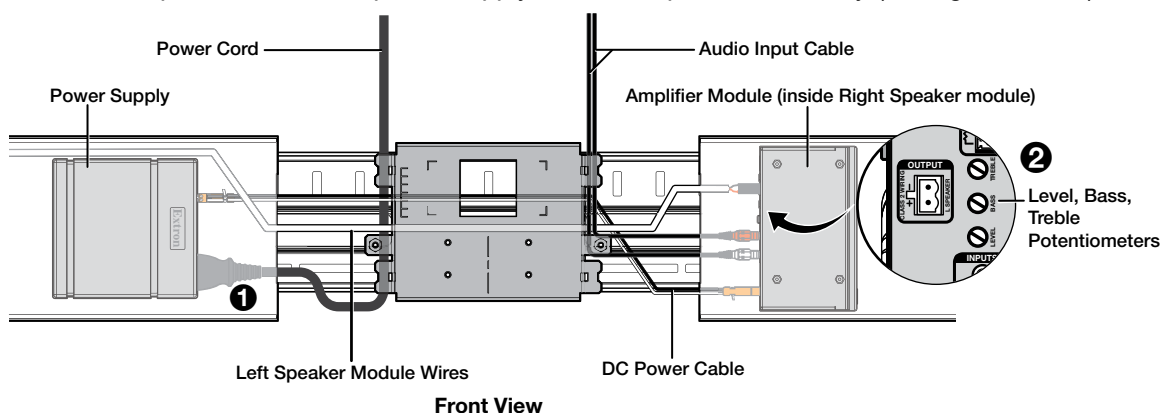

Figure 29. Connecting Power to the Power Supply
4. Connect the power cord to the power supply in the left speaker assembly (see figure 29, ❶).